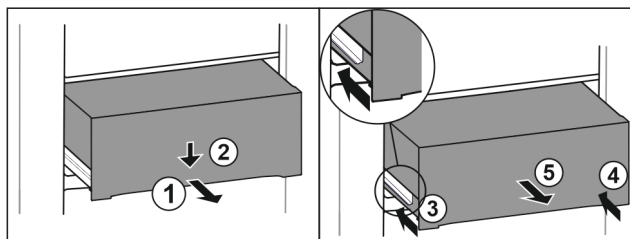

Fig. 91
- ▶ Pull out drawer half-way. Fig. 91 (1)
- ▶ Push the drawer down at the front. Fig. 91 (2)
- ▶ Push the left rail in by about 2 cm. Fig. 91 (3)
- ▶ Push the right rail in by about 2 cm. Fig. 91 (4)
- ▶ Remove drawer to the front. Fig. 91 (5)